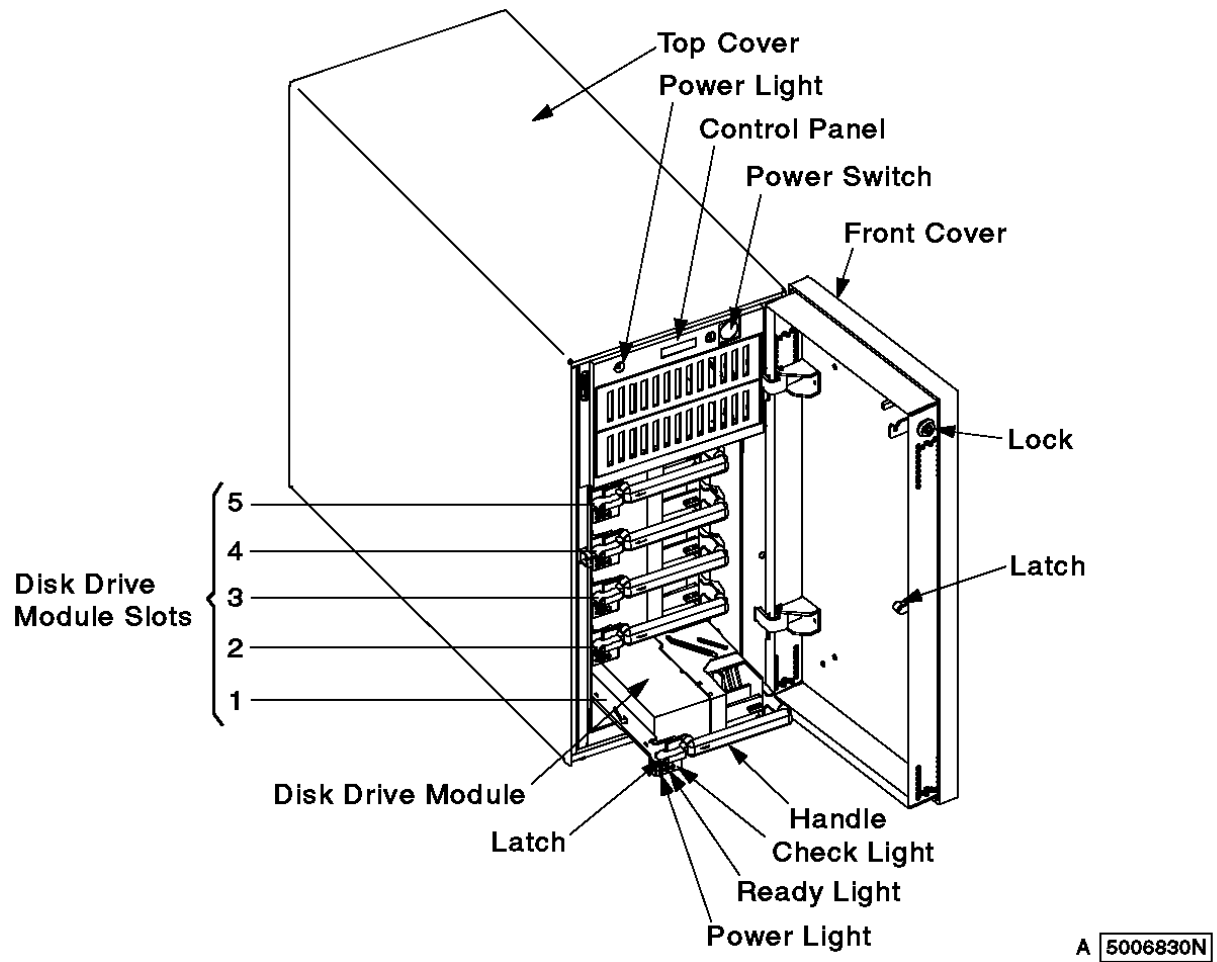

Figure 23. Disk Drive Modules Installed in the Slots
7. Move the latch down on the disk drive module (Figure 23 in topic 6.6).
5. Open the front cover (Figure 23).
7. Slide the disk drive module into the slot (Figure 23).
11. Verify that the ready light to the disk drive module is on; light is steady, not flashing (Figure 23).